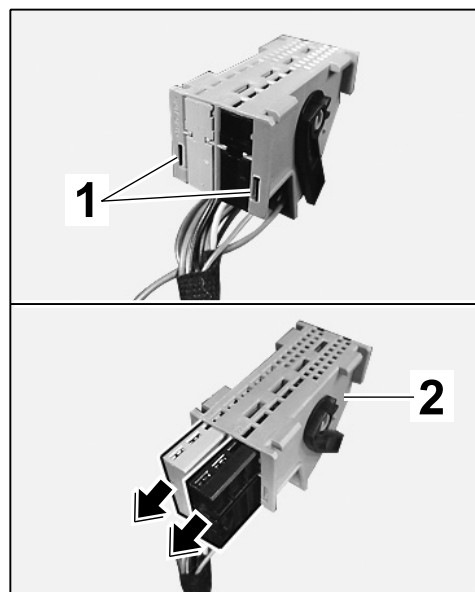

Figure 13
- 2.4.1 Open locking mechanisms ⇒ *Figure 13 -1-* and slide both plug sockets ⇒ *Figure 13 -arrows-* out of the blue plug carrier.